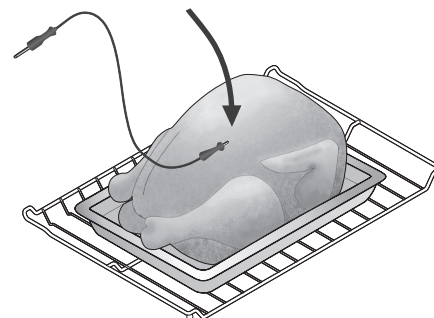

Figure 31: Probe in thickest part of breast
- For whole poultry or turkey, fully insert the probe sensor into the thickest part of the breast (See Figure 31).